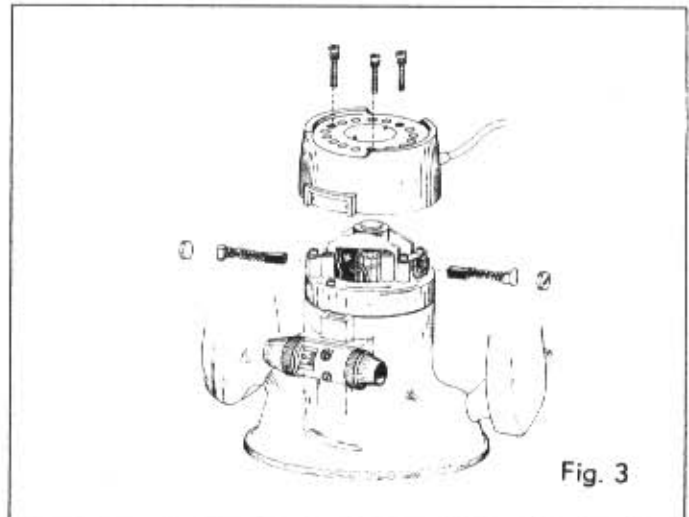

Fig. 3
3. Remove the three screws which secure router end cap and lift end cap off. See Fig. 3.